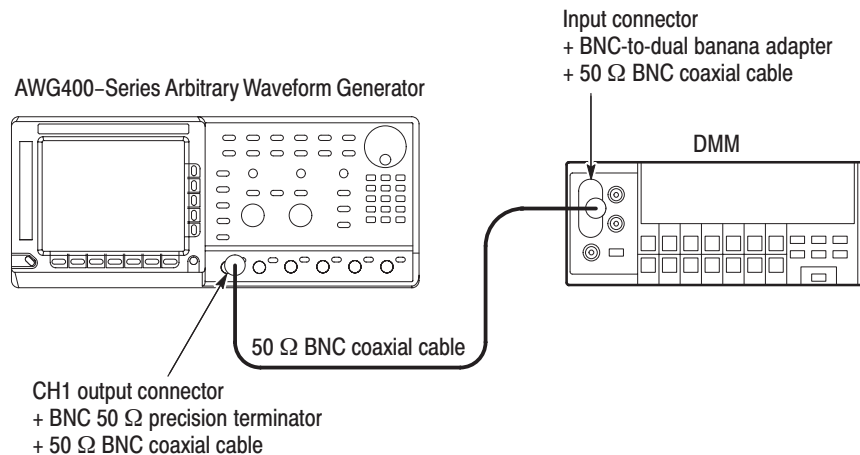

Figure 4–18: Direct DA output amplitude accuracy initial test hookup
- a. Use a 50 Ω BNC coaxial cable, a 50 Ω precision terminator, and a BNC-to-dual banana adapter to connect the AWG400-Series **CH1** output to the DMM input connector (see Figure 4–18).